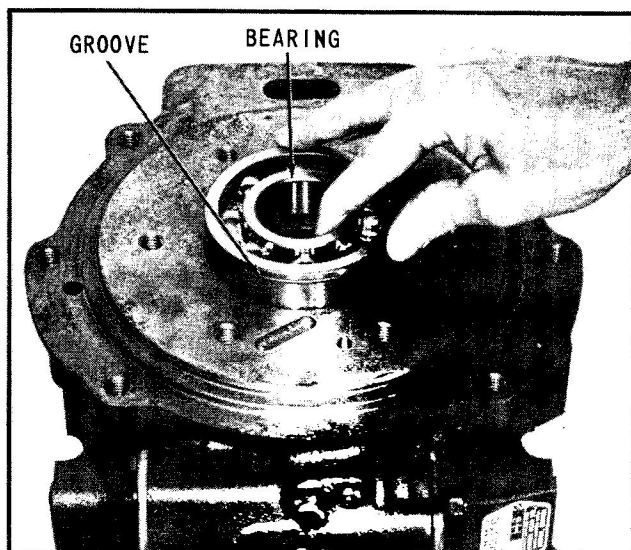

Fig. 56 Assemble Ball Bearing
1. Replace ball bearing, with groove to rear and snap ring in groove on the 1.5 to 1 units only, in the bore of forward and reverse transmission case and seat against case, (Fig. 56).